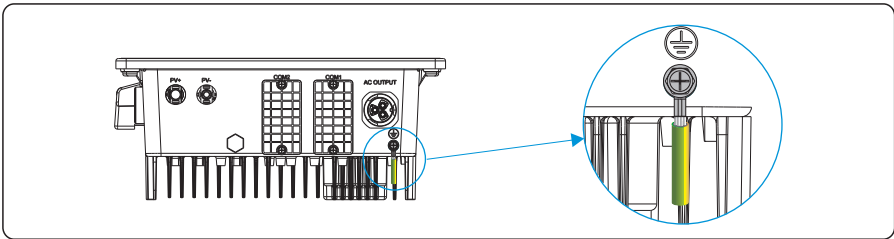

Figure 5.4 Secure the PGND cable
Step 4 Secure the PGND cable (done by step 1 & 2) using the ground screw and tighten the screw using a socket wrench (torque 1.2 N·m),as shown in Figure 5.4.